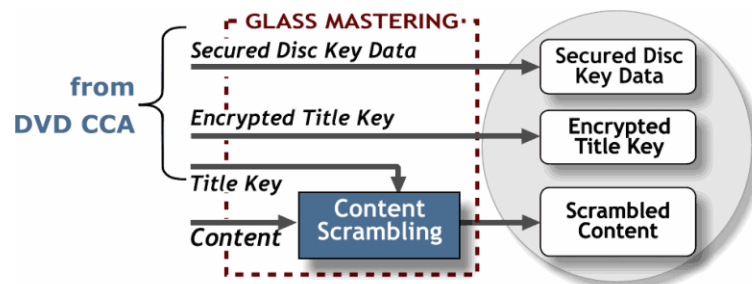

Figure 6 CSS Encoding during Glass Mastering
- For **DVD-Video** both CSS (Content Scrambling System) digital copy protection and Macrovision analogue copy protection are carried out at the mastering stage by the data formatting system. For CSS the content and copy control information (CCI) are scrambled using the Title key, which is stored on the disc encrypted by the Disc Key, which in turn is stored on the disc in a secure way (see Figure 6).